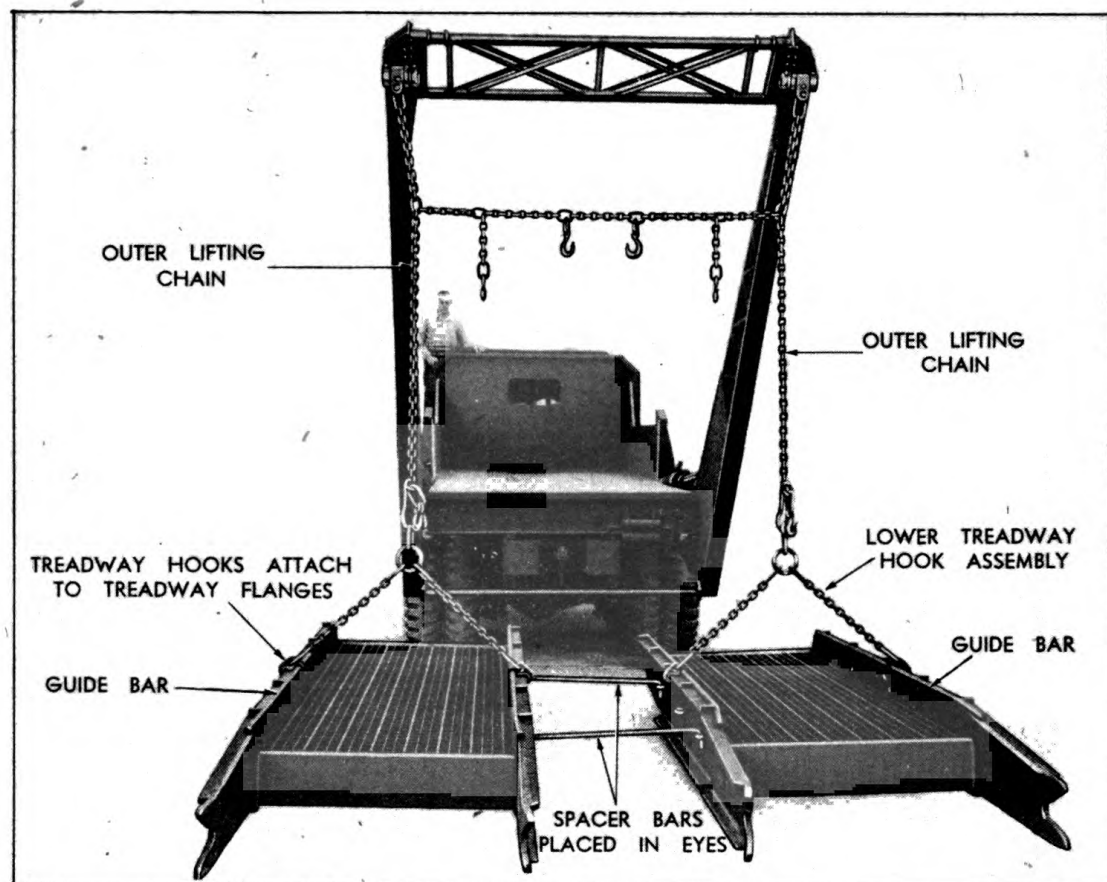
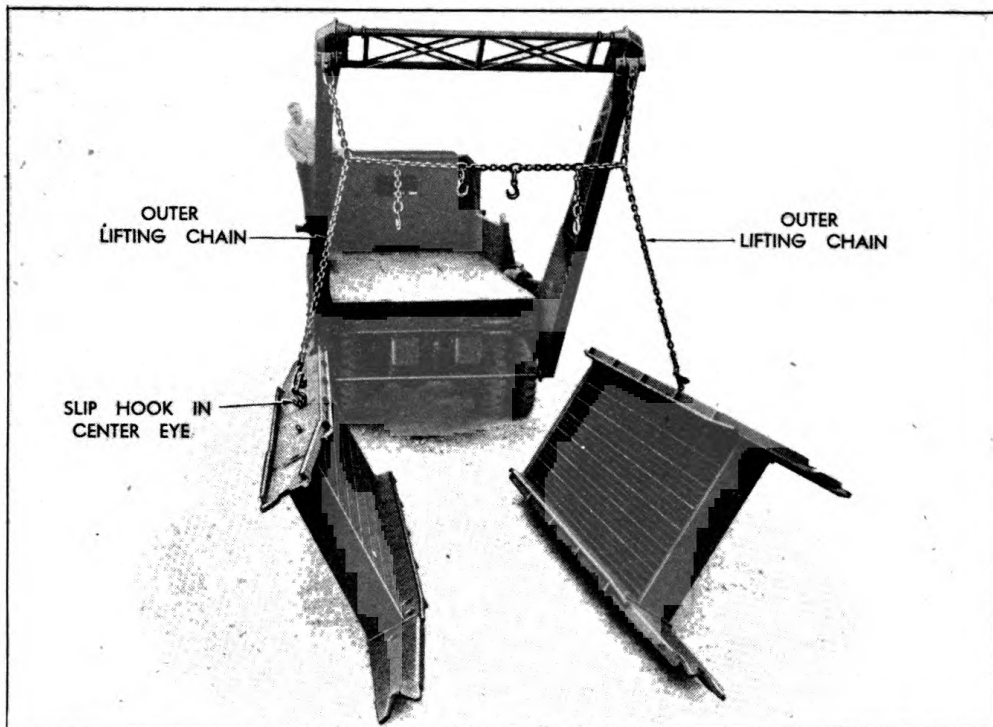

Figure 23. Treadways Properly Spaced with Bars. Note Chain Arrangement
Figure 25. Using Slip Hooks to Stand Treadways on Edge for Loading
(3) Raise the boom until the treadways swing freely and they will hang in the proper position for inserting the spacer bars. Each pair of treadways are connected by two spacer bars. These bars are inserted through eyes located toward each end of the sides of the treadways. See Figure 23.
(1) To load the treadways in the truck, remove the spacer bars, Figure 23, and attach the slip hooks on the outer lifting chains to the center eyes located on the outer sides of the treadways. Raise the boom to stand the treadways on edge. See Figure 25. **DO NOT** use the lower treadway hook assemblies for this operation!